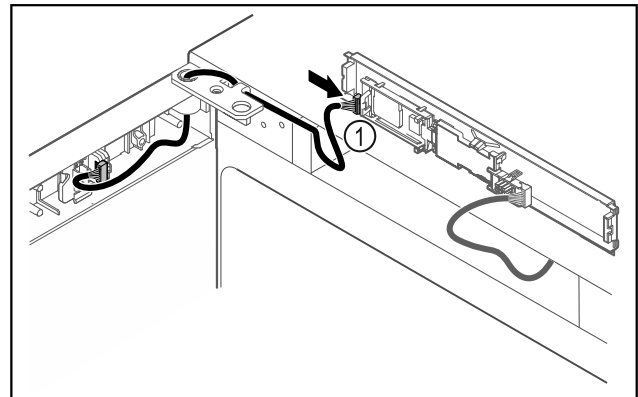

Fig. 47
- ▶ Connect the plug Fig. 47 (1) to the circuit board.